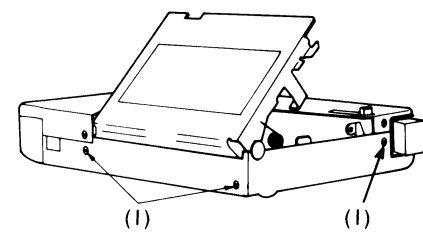

Fig. 7
HOW TO REMOVE THE BOTTOM CABINET (Shown in Fig. 7~9)
1. Remove the screws (I)×4 (1.4×2)mm. (Fig. 7, 8)